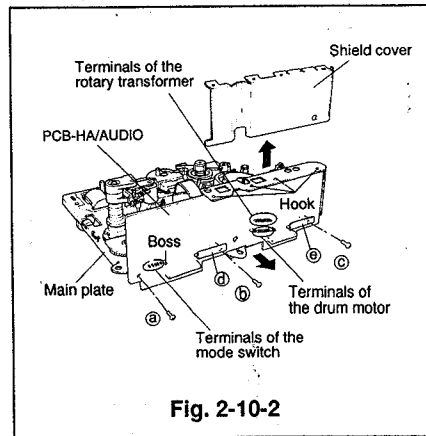

Fig. 2-10-2
- ② Unsolder the soldered pins on the terminal of the drum assembly and the terminal of the rotary transformer. (Refer to Fig. 2-10-2)
- ③ Solder the pins of the drum assembly and the rotary transformer. (Refer to Fig. 2-10-2.)
- ④ Install the cassette housing.